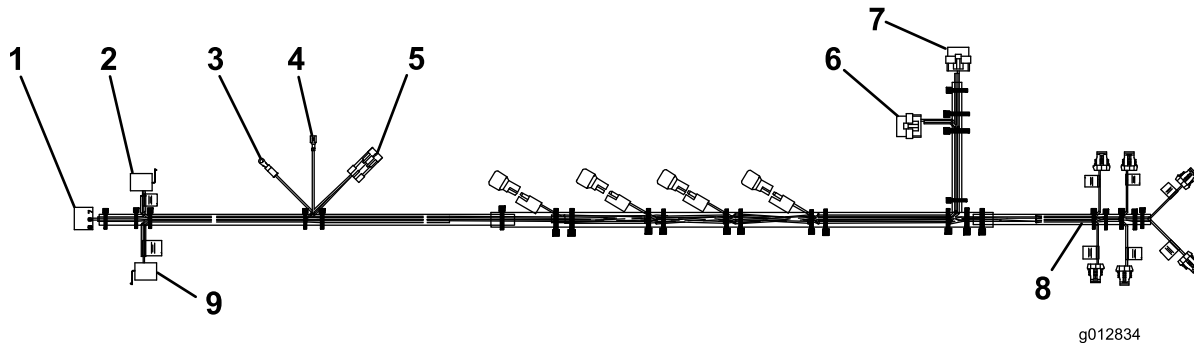

Figure 28
48. Route and connect the wire harness (Figure 28) at the follows locations: